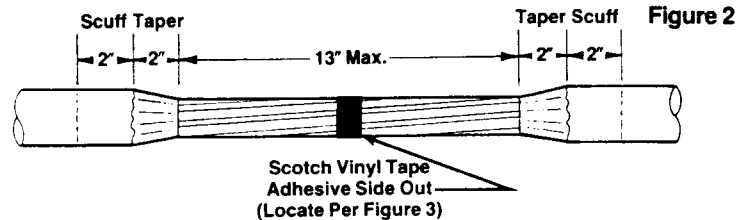

Figure 2
2. Remove entire cable jacket from repair area, for a length not exceeding 13" (330 mm). (Figure 2)
3. FULLY taper jacket ends for 2" (50 mm). (Figure 2)
4. THOROUGHLY scuff jacket for 2" (50 mm) beyond taper. Clean dust from scuffed area. (Figure 2)
6. Bind conductors together with band(s) of INVERTED vinyl tape (adhesive side out), located per Spacer Web positions shown in Figure 3. (Figure 2)